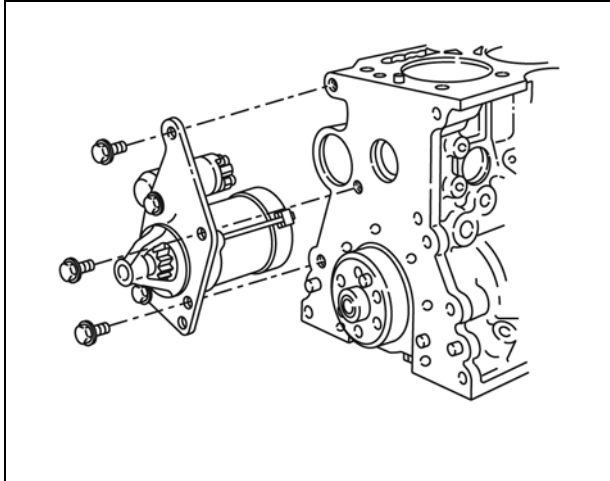

Figure 1
4. Remove starter motor (Figure 1).